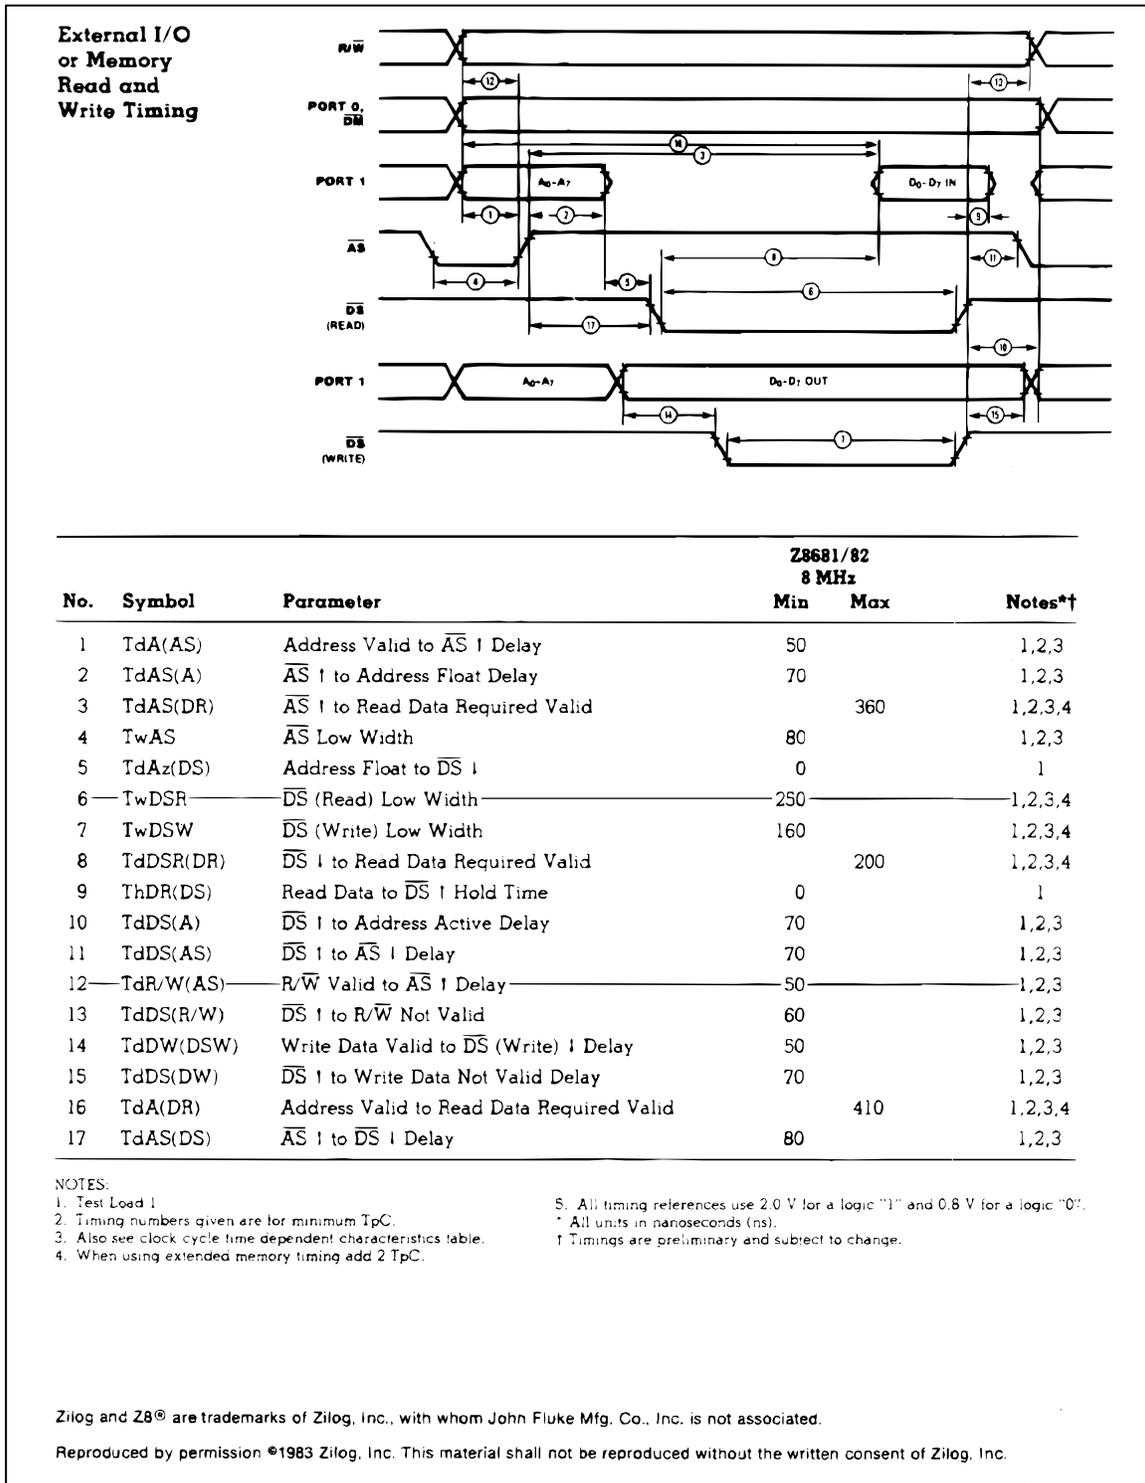

Figure 5-14. Read/Write Timing Diagrams for Internal Bus
All internal bus communication is memory-mapped. Each component that sends or receives data on the bus has a unique address or range of addresses. The internal bus consists of lines AD0-AD7 and A8-A11. Lines AD0-AD7 are time-multiplexed to carry both the least-significant address byte and the data. Lines A8-A11 carry the most-significant bits of the address. The  $\mu\text{C}$  writes to and reads from the internal bus according to the read and write cycles shown in Figure 5-14. During either cycle, the address strobe (AS) changes from low to high when an address is valid, and the data strobe (DS) changes from low to high when the data is valid.